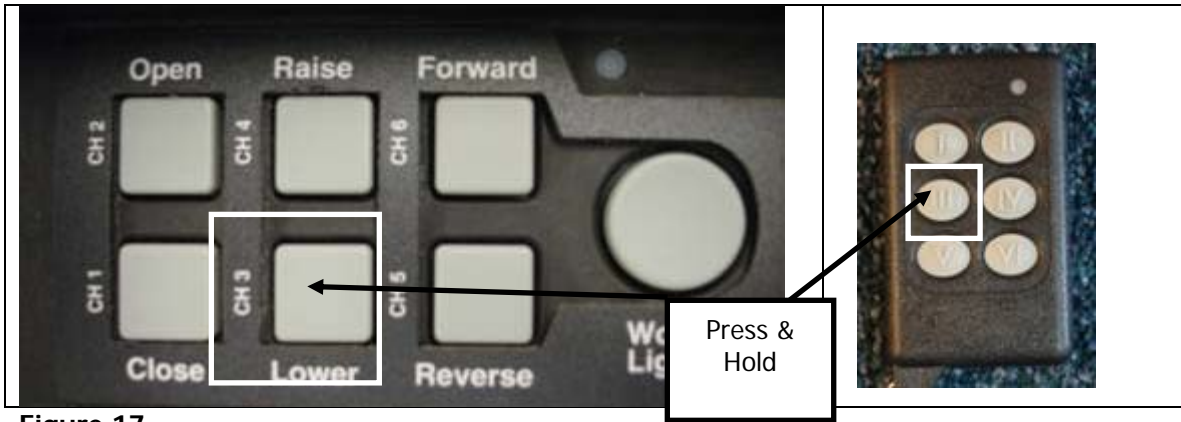

Figure 17
- 4) Unload or dump container. If you are traveling with an empty or no container return the system to its home position. Home position is typically with the tower in the lowered position. To lower the tower press & hold button 3 on the control box or the key fob (see Fig. 17).